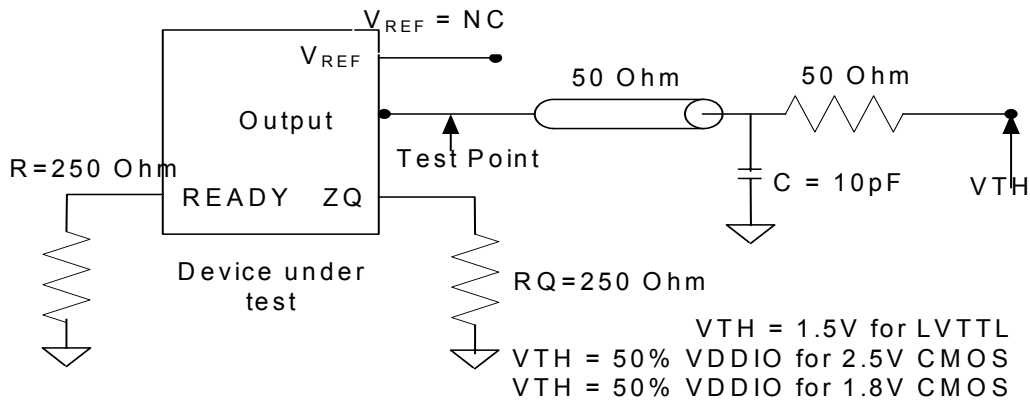

Figure 6. Output Test Load for LVTTTL/CMOS
31. Parameters specified with the load capacitance in Figure 6 and Figure 7.